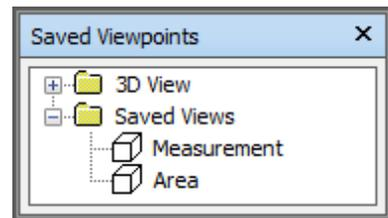
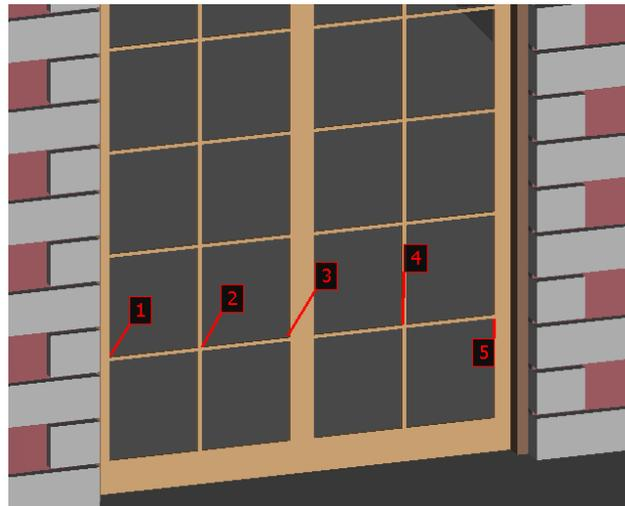

Figure 3-34 Expanded view of the Saved Views folder
Figure 3-35 The Measurement view in the Scene View
2. In the **Saved Viewpoints** window, click on the + icon corresponding to the **Saved Views** viewpoint folder; the folder is expanded, as shown in Figure 3-34.
3. Select the **Measurement** option from the **Saved Views** folder, refer to Figure 3-34; the view is displayed in the Scene View, as shown in Figure 3-35. Close the **Saved Viewpoints** window.
2. In the **Saved Viewpoints** window, click on the **+** icon corresponding to **Saved Views** viewpoint folder; the folder will be expanded, refer to Figure 3-34.